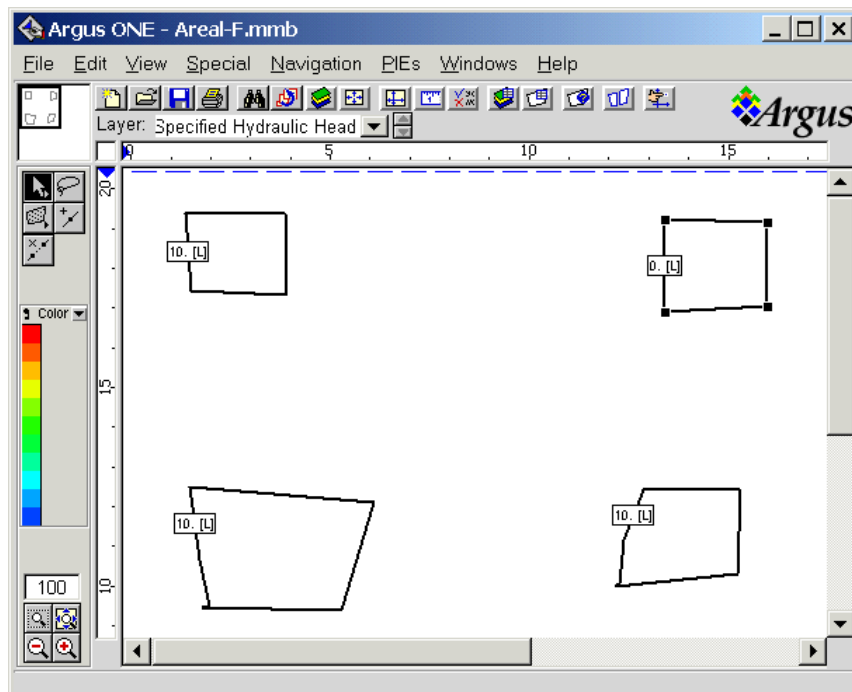

Figure 20. Lakes in Areal Ground-Water-Flow Step-by-Step Example.
- Draw a lake by first activating the contour-drawing tool . Then move the cursor into the white workspace and click at three locations, creating the first vertices of a closed contour. Try to create a lake similar to one of the four shown in figure 20. Then, double-click on the location desired for the last vertex. The *Contour Information* dialog box appears.
9. Draw the other three lakes by clicking to create small closed regions similar to the ones shown in figure 20. For each lake, double-click on the last vertex to close the shoreline. This brings up the *Contour Information* dialog box for each lake. For two of the remaining lakes, enter 10.0 for the head, and for the last lake, enter 0.0 for the head. For all lakes, enter 0.0 for the concentration.